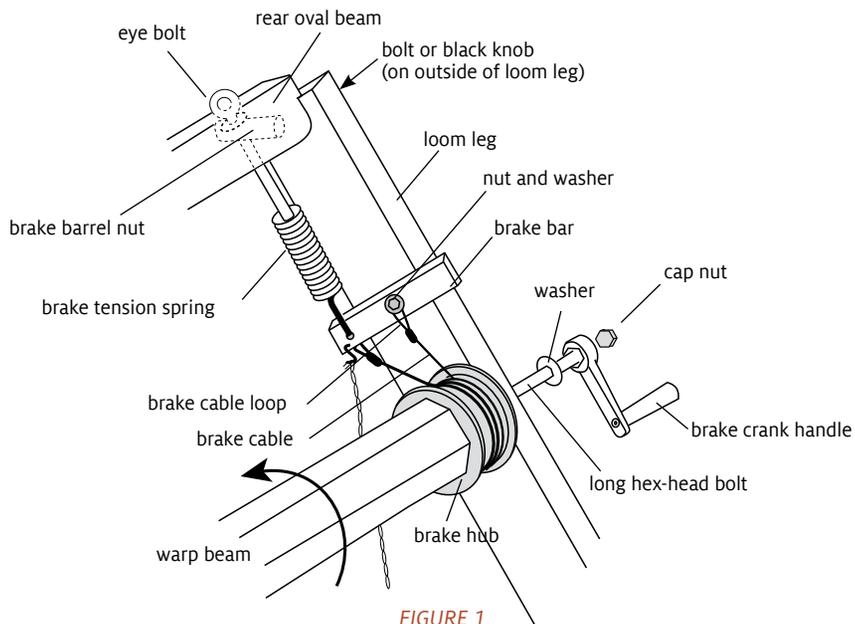

FIGURE 1
1. Using the warp beam crank as a wrench, unscrew and remove the 3/8" cap nut by turning it counterclockwise (figure 1). Hold the warp beam to prevent it from turning. Remove the handle and the washer.
*For newer or updated looms:* Remove the eye bolt (figure 1) from the brake tension assembly by turning it counterclockwise.
4. Remove the nut and washer at the center of the brake bar (figure 1). Take the loop off the bolt and carefully unwind the brake cable.